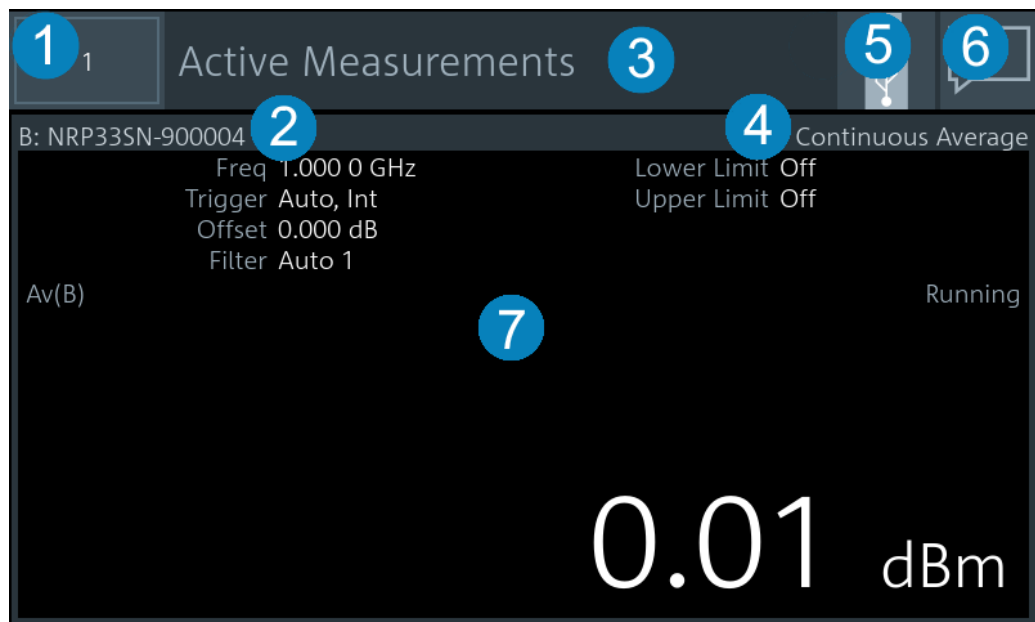

Figure 4-1: Start dialog (example for setup with one power sensor)
- In the start dialog, tap the pane of the measurement you want to access. In this example, tap (7) in Figure 4-1.
The status information is displayed in the upper right corner, left from the notification center. See Figure 4-1.
See (6) in Figure 4-1.